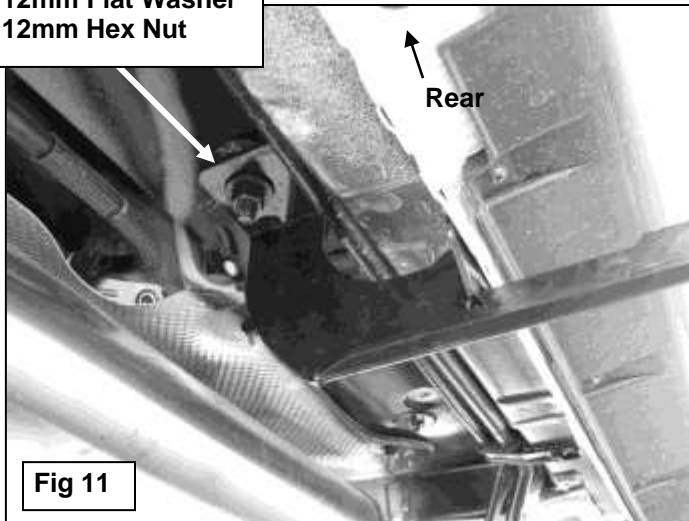

Fig 11
6. Continue along the side of the vehicle and locate the rubber plug in the bottom of the floor panel directly in front of the rear suspension mount, **(Figure 8)**. Remove the plug. Partially thread (1) 12mm Plastic Retainer onto (1) 12mm x 40mm Short Low Profile Bolt Plate. Repeat **Step 1** to insert the Bolt Plate with Retainer into the hole, **(Figures 9A & 9B)**. Select the passenger rear Bracket. Slide (1) Large Spacer Washer over the Bolt Plate and Retainer, **(Figure 10A & 10B)**, then attach the passenger Rear Bracket to the Bolt Plate with (1) 12mm Flat Washer, (1) 12mm Lock Washer and (1) 12mm Hex Nut, **(Figure 11)**.
12. Mark the front, center and rear Support Bracket slot locations onto the back of the pinch weld, **(Figure 16)**. Temporarily remove the Running Board and Brackets. Remove the screws attaching the plastic rocker cover to the bottom of the body, **(Figure 11)**.